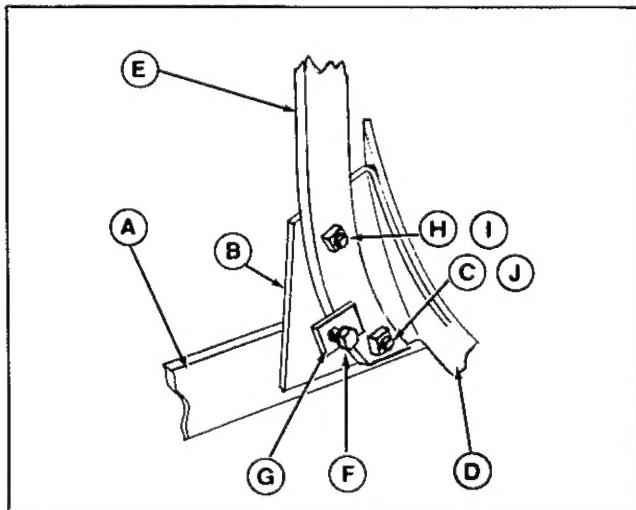

Figure 1. Plow
1. Attach the standard (E, figure 1) to the frog (B) with a $1/2 \times 1-1/2$ " carriage bolt (H) and $1/2$ " nut (I).
2. Tighten the $1/2 \times 2$ " plow bolt (J) and $1/2$ " square nut (C) at the bottom end of the standard. Tighten the square nut on the land adjusting bolt (F) ($1/2 \times 1-1/2$ ") against the tab (G) welded to the standard, so that the threaded end of the bolt is forced against the frog (B).